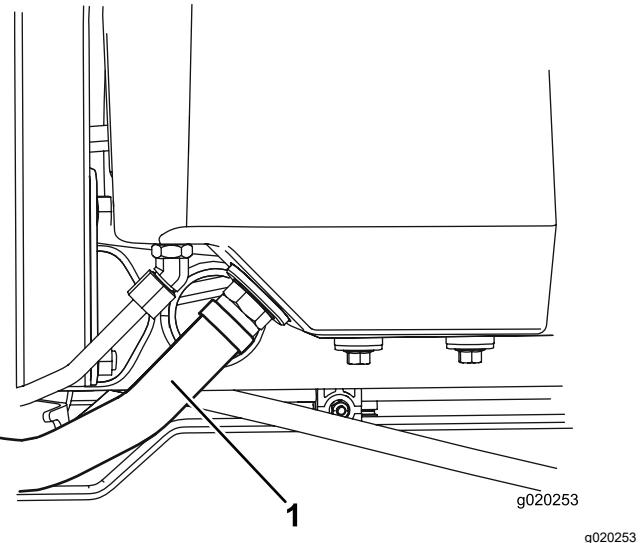

Figure 77
2. Disconnect the large hydraulic hose (Figure 77) from the reservoir and let the hydraulic fluid flow into a drain pan.